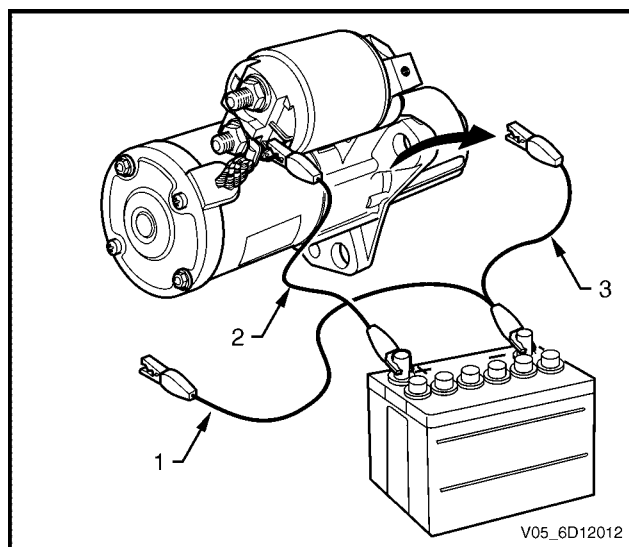

Figure 6D1-2 – 13
- 2 Connect the starter motor as shown in Figure 6D1-2 – 14.